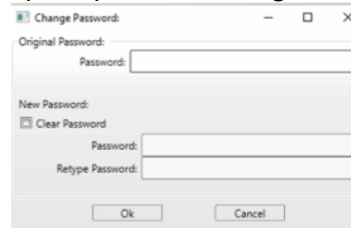

Figure 5.7: Change Password Prompt
- Select “Change Password” from the home screen to bring up the prompt shown in Figure 5.7.
- Once logged in at the Factory level, press the “Change Password” button. The same prompt shown in Figure 5.7 will appear, but the “Original Password” box will be grayed out.